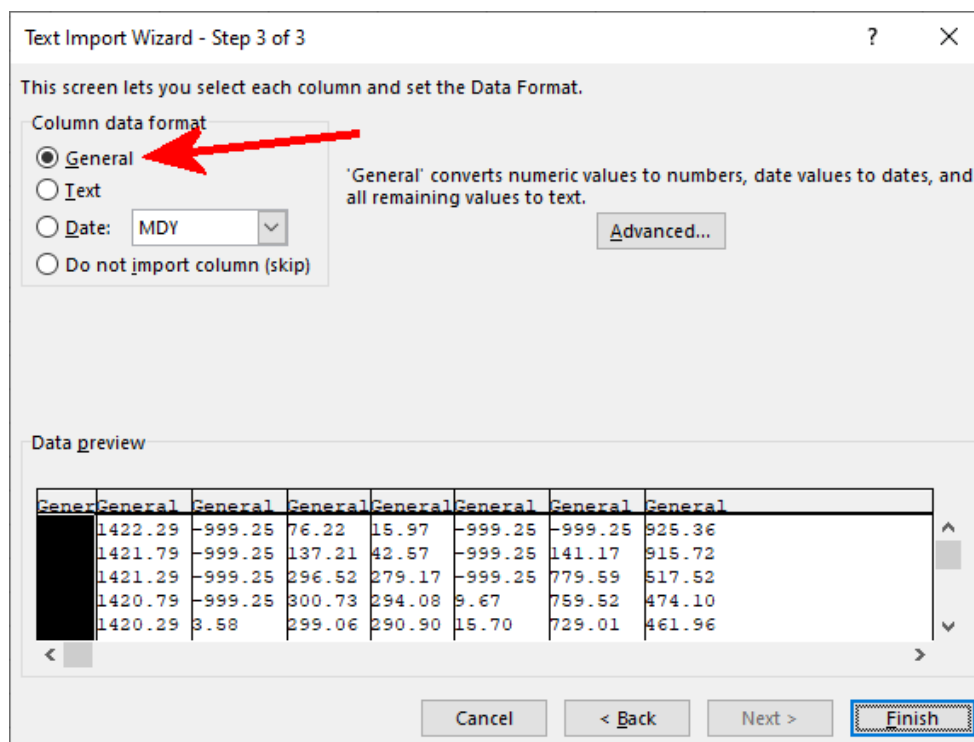

Figure 5
- Select the *General* option within the next menu and click on the *Finish* option (Figure 5) and click on the *OK* button within the next menu.